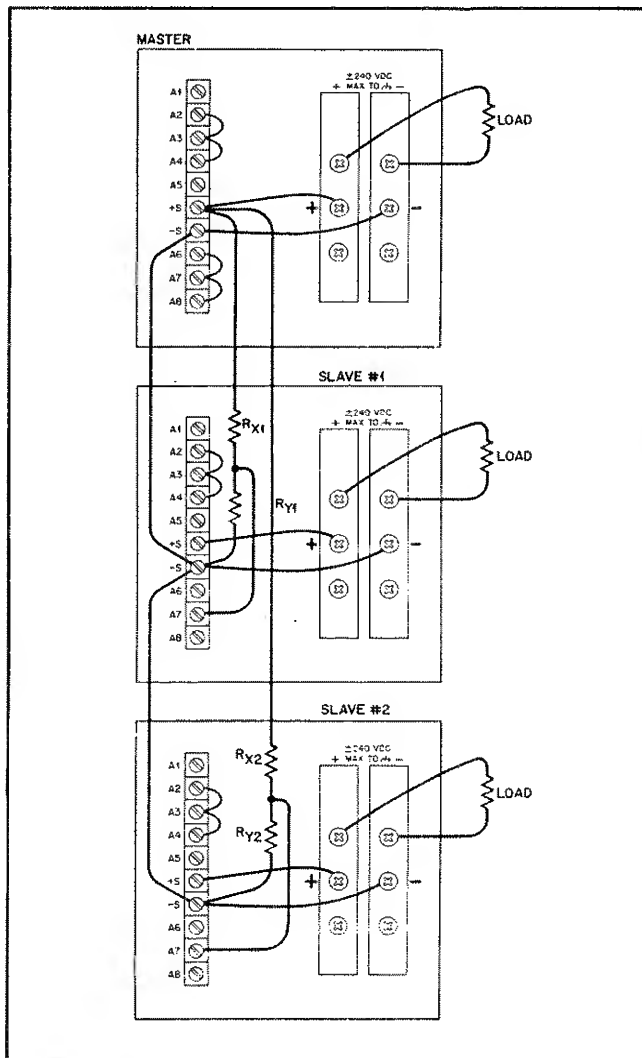

Figure 3-17. Auto-Tracking Operation
3-83 Figure 3-17 shows the interconnections required to operate two or more units in auto-tracking mode. This mode of operation allows multiple supplies that share a common negative (or positive) output bus to power separate loads and have their output voltages simultaneously programmed by the voltage and current controls of the master supply. The output voltage of each slave supply varies in direct proportion to that of the master. The ratio of each slave's output voltage to the master's is established by the ratio of the resistors in the voltage divider connected between +S of the master and -S of the slave.
**3-85 Resistor Values.** The method for determining the values of  $R_X$  and  $R_Y$  in Figure 3-17 is similar to that given in Paragraph 3-73 for auto-series mode. First choose the ratio of the slave output voltage to the master output voltage, select a value for  $R_Y$ , and then determine the value for  $R_X$  by solving this equation: